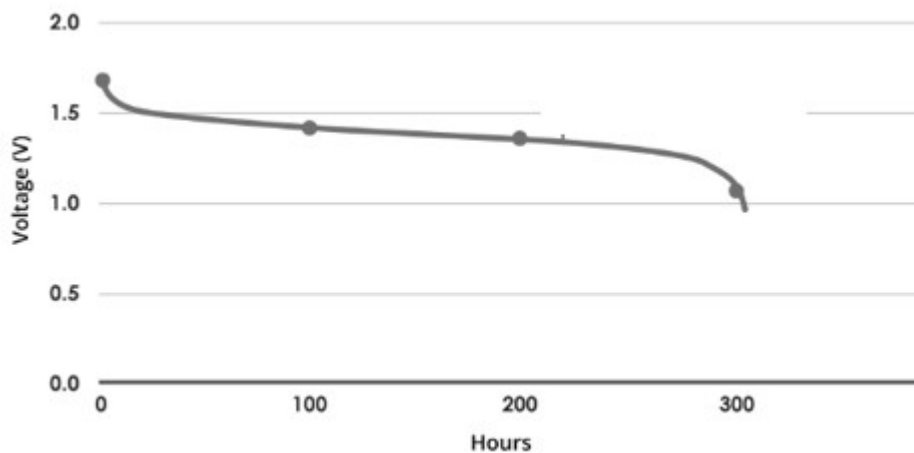

Figure 4. A silver oxide battery discharge curve.
- **Operational reliability:** *The battery can operate continuously for 300 hours (see Figure 4), having a long service life. The galvanic cell can operate only for around 12.5 hours. After 12.5 hours, the anode will disintegrate, the external circuit will be destroyed, the reactions will cease and the system will no longer produce electricity.*